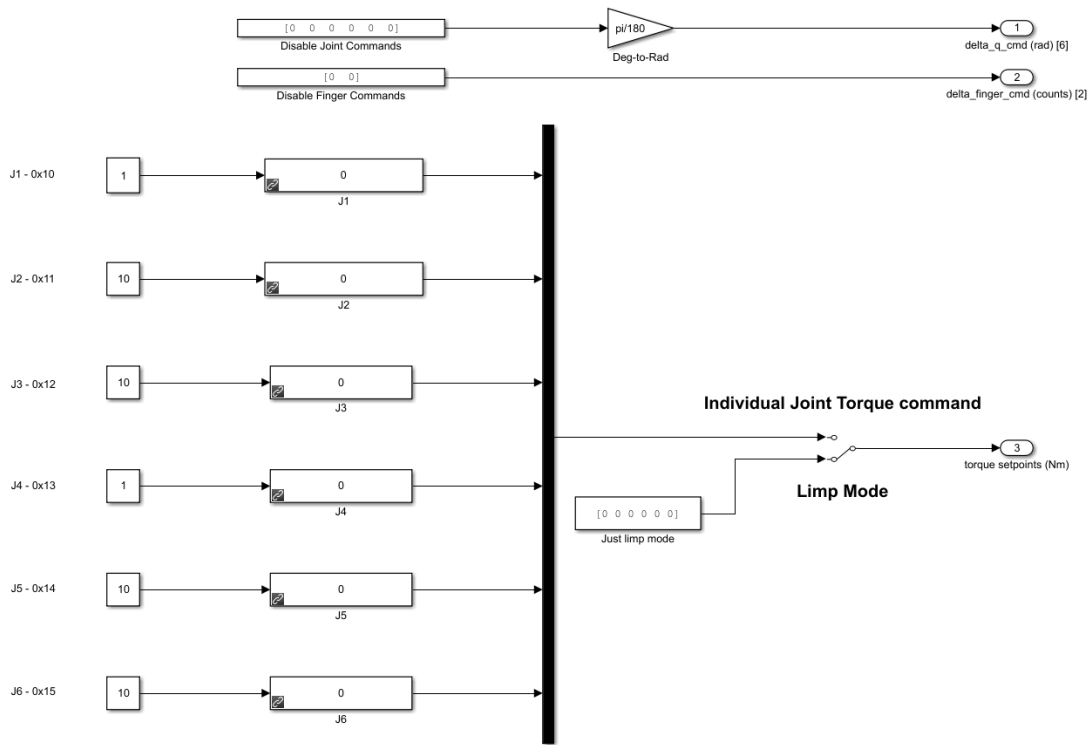

Figure 3.10: MICO_Limp_Mode.slx model commands
5. In the *Manual Torque Commands* subsystem, shown in Figure 3.10, set the *Limp Mode* Manual Switch to the downward position to enable *limp mode*. This applies zero torque command to all the joints and allows the user to move the robot arm freely.